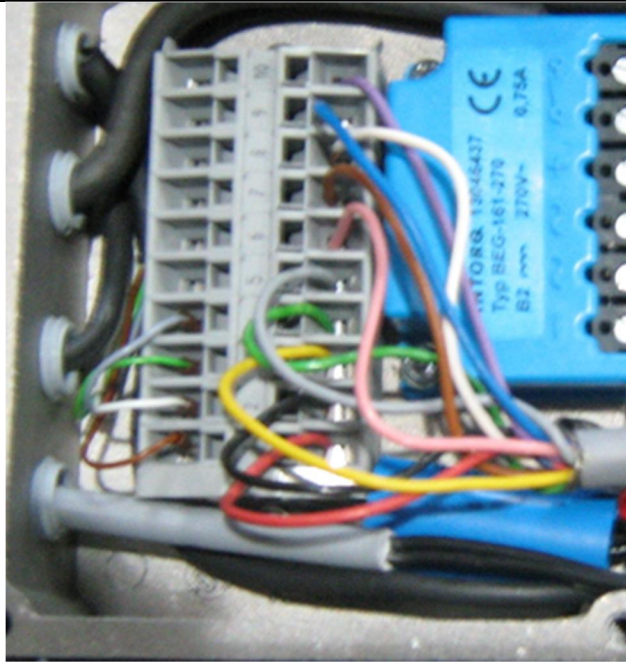

Figure 5
5. Land wires as seen in Figure 5 on low voltage strip, ground shielding to grounding screw. Use heat shrink or electrical tape to insulate excess shielding, so the shielding will not touch the high voltage. Note: Terminal 1 is at the lower portion of the picture and terminal 10 is at the top. (See Figure 5).